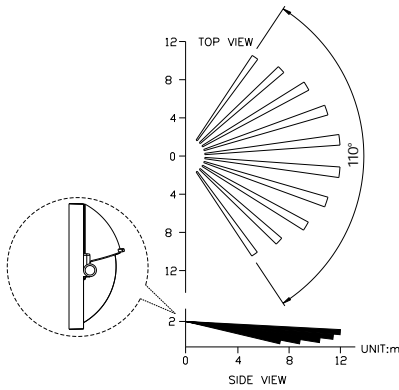

FIGURE 11
- For maximum detection range (12m) the control cover should be in the fully up position. FIGURE 11